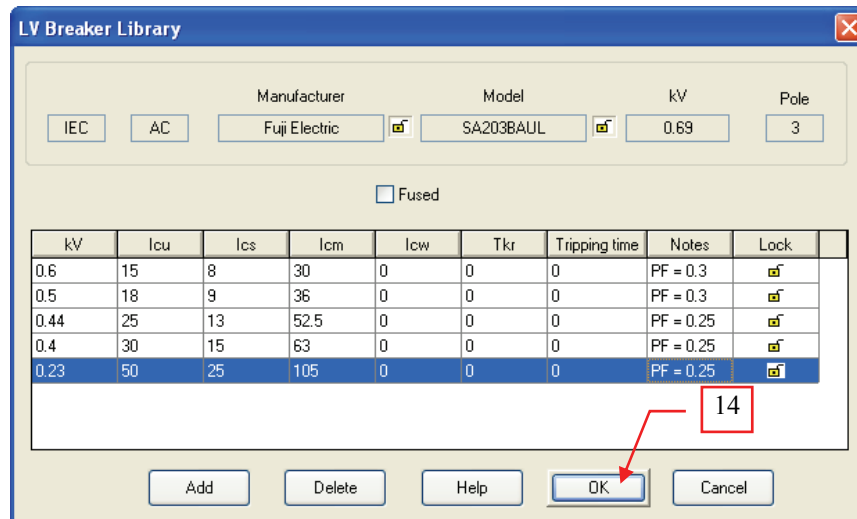

Fig. 13
14. The end result is similar to Fig. 13. Click the “OK” button when complete.